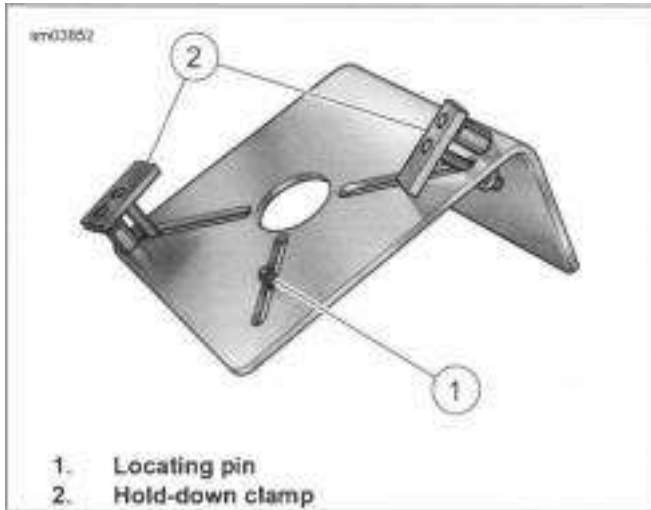

Figure 4-74. Flywheel Holding Fixture
1. See Figure 4-74. Secure flywheel assembly in FLYWHEEL SUPPORT FIXTURE (PART NUMBER: HD-44358).
- e. Secure flywheel with hold-down clamps (2).